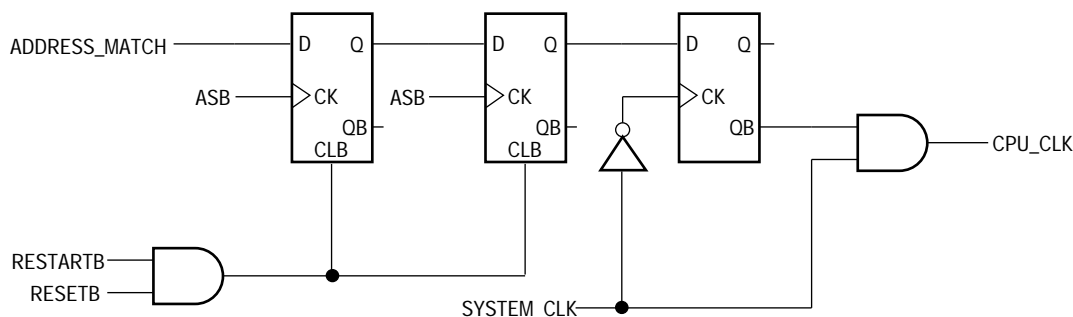
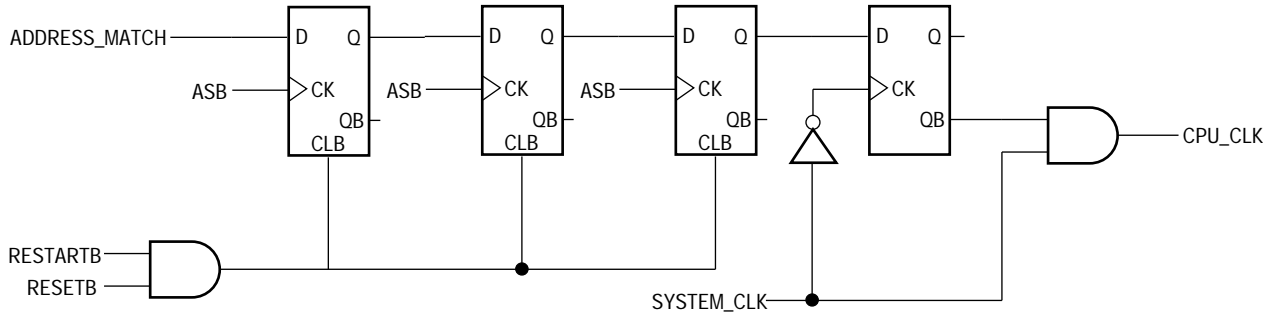
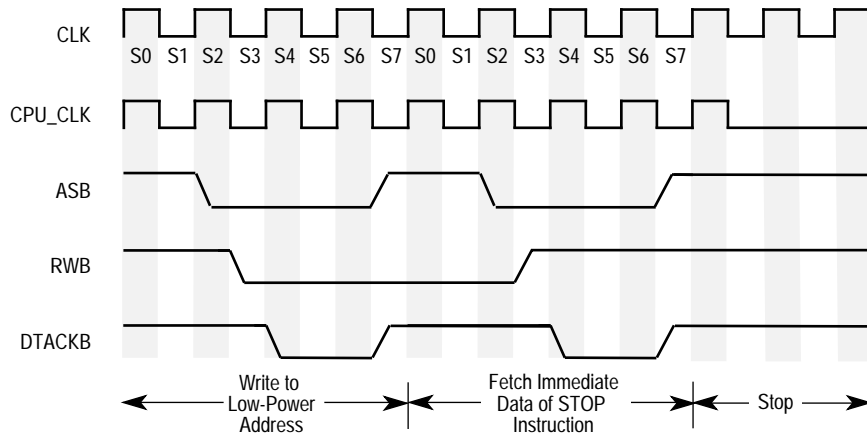

Figure 1. Low-Power Circuitry for 16-bit data bus
Figure 2. Low-Power Circuitry for 8-bit data bus
Figure 3. Clock Stop Timing for 16-bit Data Bus
- 1.) Externally detect a write to the low-power address. This address should be chosen by the user and can be any address in the 4 Gbyte addressing range of the SCM68000. A write to the low-power address can be detected by polling A31–A0, RWB, and FC2–FC0. When the low-power address is detected, RWB is a logic low, and the function codes have a five (101) on their output, then the processor is writing to the low-power address in supervisor mode and user-designed circuitry should assert the ADDRESS_MATCH signal shown in Figure 1 and Figure 2.
2.) Execute the STOP instruction. The external circuitry shown in Figure 1 and Figure 2 will count the number of bus cycles starting with the write to the low-power address and will stop the processor's clock on the first falling edge of the system clock after the bus cycle that reads the immediate data of the STOP instruction. Figure 2 has one more flip-flop than Figure 1 because the SCM68000 in 8-bit mode requires two bus cycles to fetch the immediate data of the STOP instruction. After the processor's clock is disabled it is often desirable to disable the clock to other sections of the user's circuit. This can be done, but care must be taken to ensure that runt clocks and spurious glitches are not presented to the SCM68000. A timing diagram is shown in Figure 3.